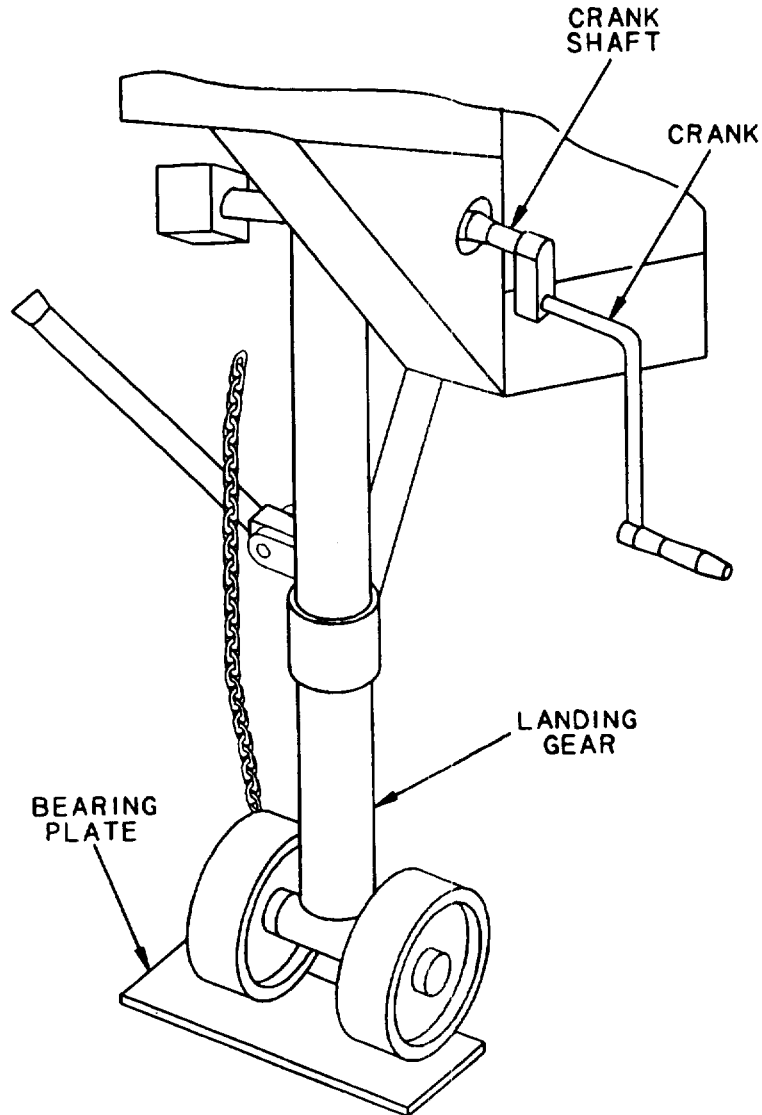

Figure 2-1. Van landing gear in extended position.
- (1) Apply the van brakes by operating the airbrake controller in the tractor cab.
- (2) Place the wheel chocks under the rear wheels of the van.
- (3) Remove the landing gear cranks from their transit positions under the van.
- (4) If bearing plates are provided to support the base of the landing gear, position the bearing plates as shown in figure 2-1. Supporting timbers or planks may also be used.